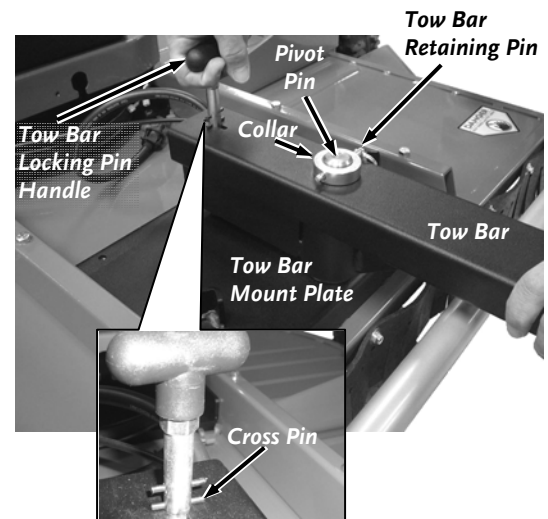

Figure 5
3. Pull the Handle of the Tow Bar Locking Pin up so its Cross Pins are above the Tow Bar and then twist the Handle 90° so the bottom Cross Pin rests on top of the Tow Bar (**Figure 5**).